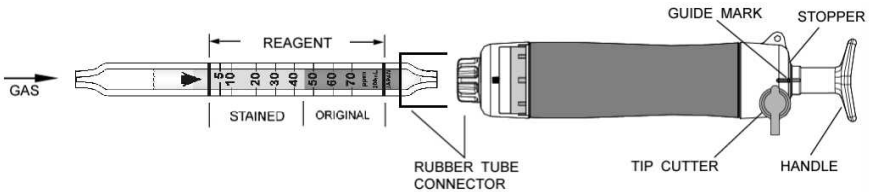

Fig.1
- ① Break both ends of the detector tube.
- ② Insert the detector tube into the aspirating pump securely as shown in Fig.1. (Arrow mark shall point to the pump.)
- ③ Align the guide marks on the shaft and stopper of the aspirating pump.
- ④ Pull the pump handle at a full stroke until it locks and wait for 2 minutes or until the completion of sampling is confirmed with the flow indicator of the pump. (See descriptions about the flow indicator in the instruction manual of the pump.)
- ⑤ Push back the handle without removing the detector tube from the rubber tube connector so that air in the pump will be discharged perfectly. Then repeat the steps ③~④ once more.
- ⑥ On completion of sampling, read the scale at the maximum point of the stained layer.
① Temperature; Correct the tube reading by following temperature correction table.